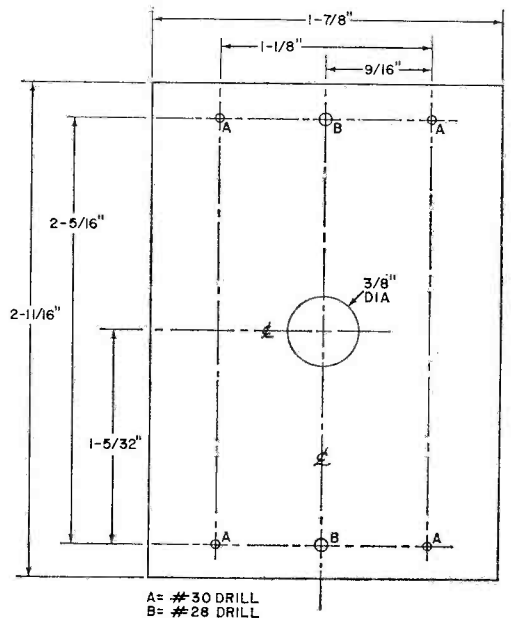

Fig. 4. Potentiometer R3 is mounted on this plate which, in turn, supports the two component boards.
**Dial Calibration.** Mount the dial, the dial center plate, the pointer, potentiometer R3, and the vernier drive mechanism on the face of the cabinet. The potentiometer is mounted on the plate shown in Fig. 4, which is separated from the drive mechanism by a pair of metal rods 1¾" long by ¼" diameter, tapped for No. 6-32 screws at each end. The rods engage two of the mounting screws of the drive mechanism. Be sure that all these parts